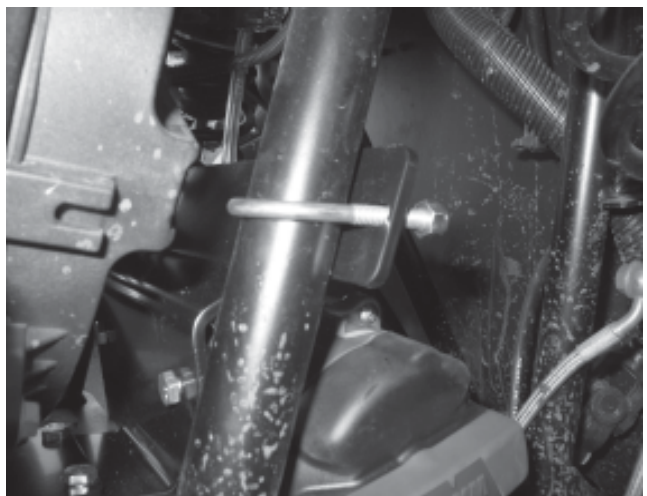

Figure 3
4. Attach the mounting plate with the winch to the frame using 2 1/4-20 U-bolts, washers and locking hex nuts. Just finger tighten the hex nuts at this time. This will help hold the mounting plate into position while attaching the fairlead bracket and the rest of the hardware, see figure 3.